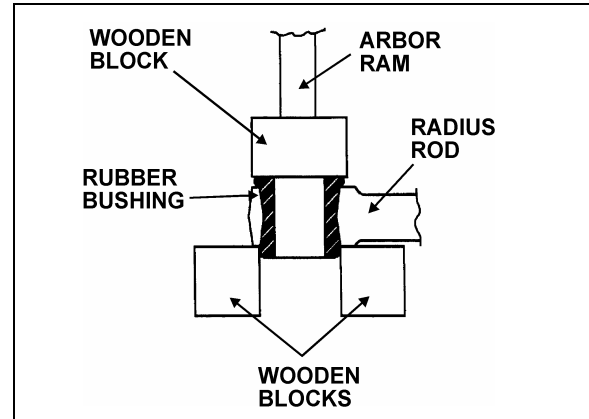

FIGURE 8: RADIUS ROD BUSHING INSTALLATION
2. Safely support the radius rod, and place new bushing on top of the radius rod end (Fig. 8).